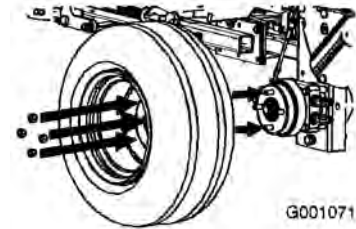

Figure 5
4. Mount the wheels with the valve stem to the outside and secure them with the wheel nuts previously removed (Figure 5).